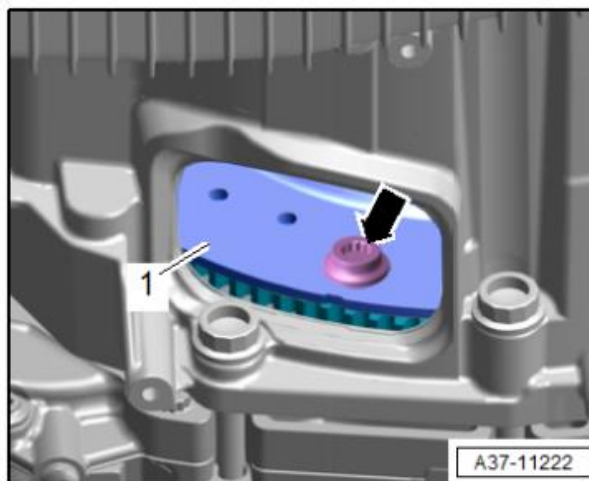
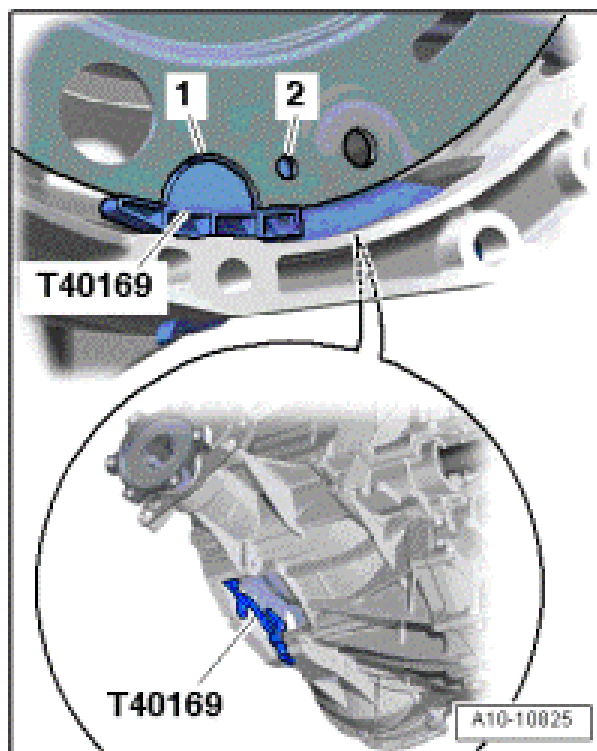

Figure 5. Flywheel bolt.
Figure 6. Installation of transport protection tool T40169.
3. Remove the three bolts from the flywheel, turning the crankshaft 120° further in the direction of engine rotation to access the next bolt (Figure 5). Plan the removal of the bolts in order that transport protection tool -T40169- can be installed after the last bolt is removed. The installation aid must grip in the semi-circular recess -1- and also in the inspection hole -2-. Lock the plastic turret on the installation aid in the gearbox housing (Figure 6).